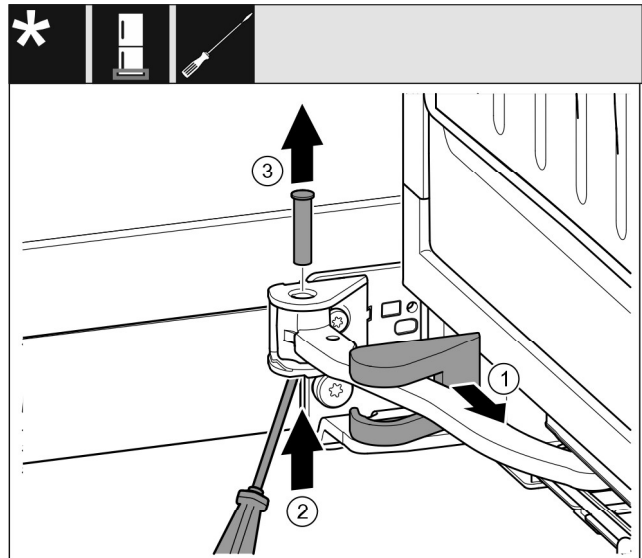

Fig. 16
- ▶ Pull off the swap bearing block cover *Fig. 16 (1)* and slide it along the joint.
- ▶ Use the screwdriver to lift the pin *Fig. 16 (2)* from the bottom.
- ▶ Pull the pin *Fig. 16 (3)* out from the top.